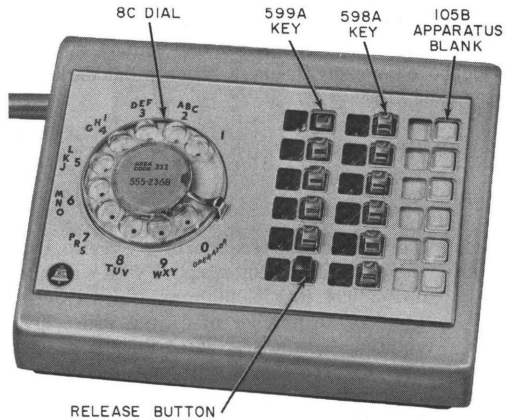
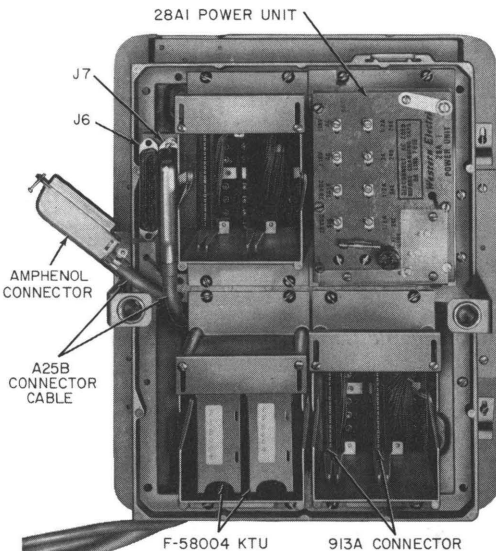
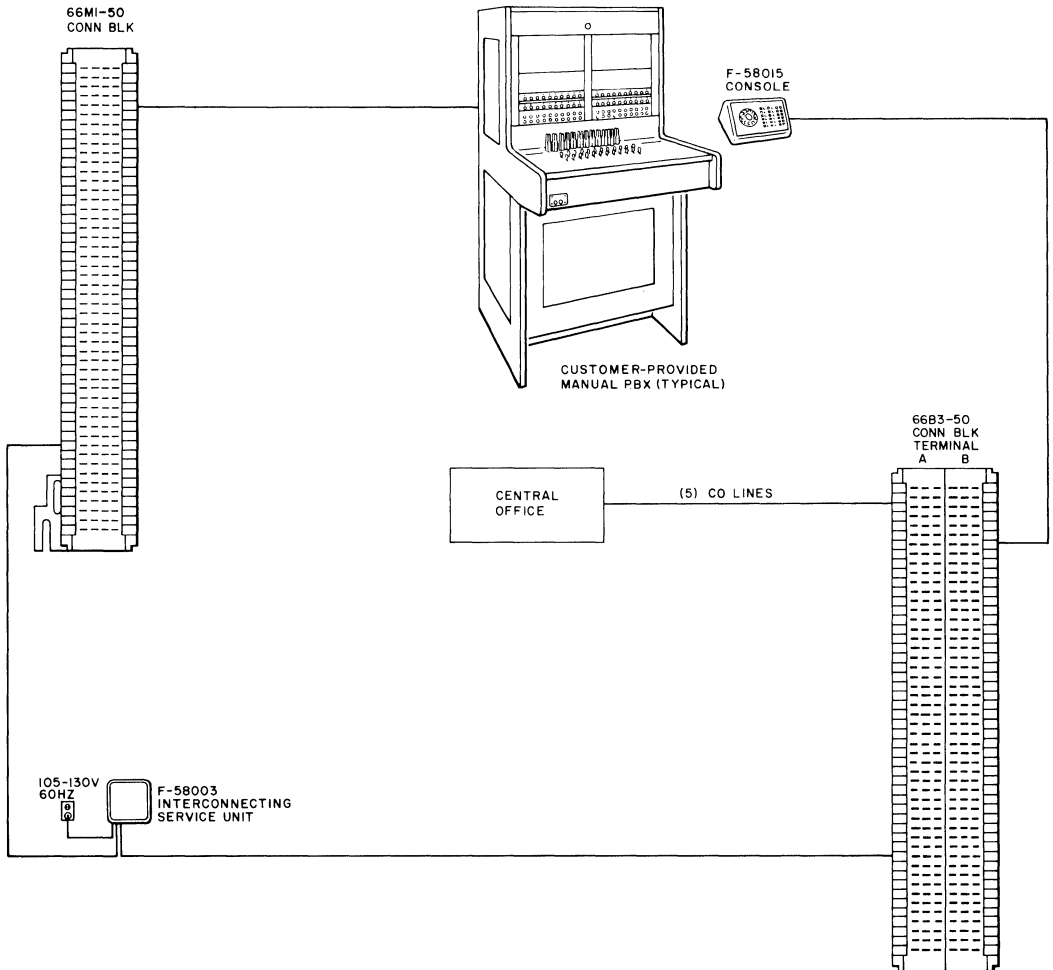
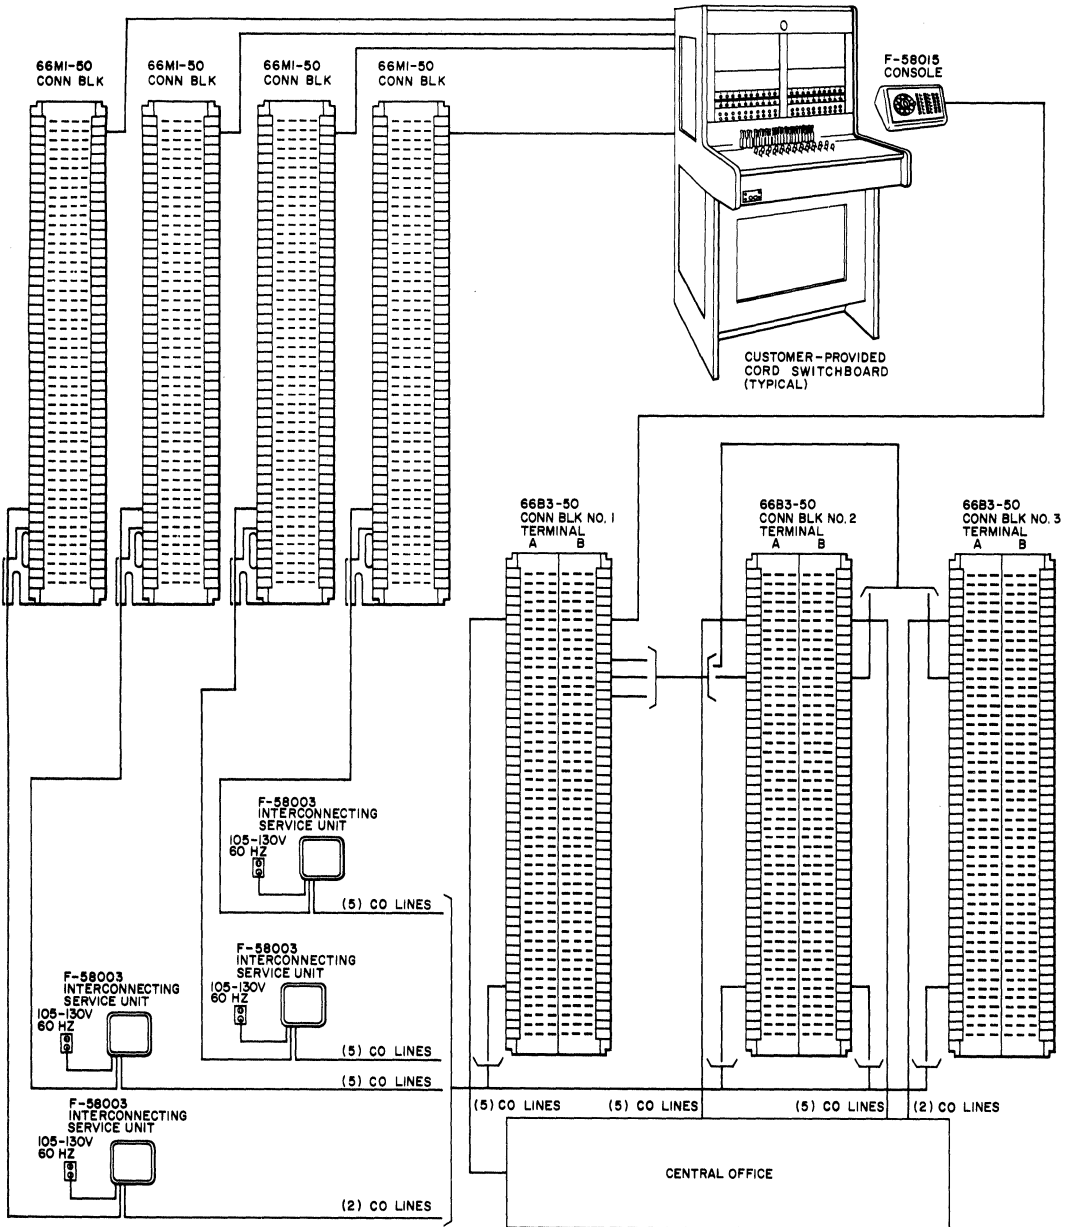

Fig. 3—F58015 Console
Fig. 1—F58003 Interconnecting Service Unit (Cover Removed)
Fig. 4—Typical Installation of up to Five Voice Connecting Arrangements CDA
Fig. 5—Typical Installation of 17 Voice Connecting Arrangements CDA
● The F-58003 Interconnecting Service Unit (ISU) (Fig. 1 and 2), equipped with a number of F-58004 Key Telephone Units (KTUs) equal to the number of central office lines required, and the associated F-58015 console (Fig. 3) provides 2-wire manual access between Bell System Lines and a CP manual PBX arranged for supervision. Fig. 4 shows a typical arrangement for up to five Voice Connecting Arrangements CDA, Fig. 5 shows a typical arrangement of the maximum of 17 Voice Connecting Arrangements CDA.
- Consists of three receptacles which house five 913A connectors into which five F-58004 KTUs can be plugged (Fig. 1).
- A 28A1 plug-in type power unit that supplies negative 24 volts battery and ground (Fig. 1).